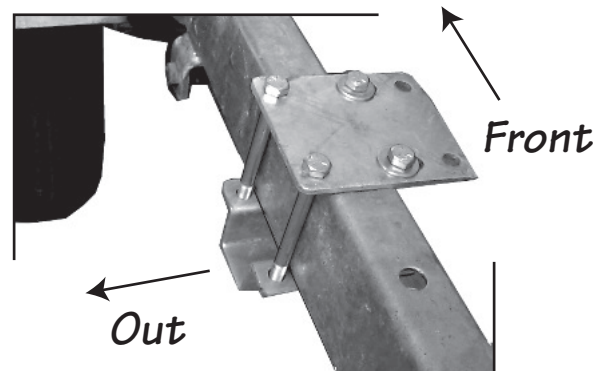

Figure 1
1. Before assembling the mounting hardware as shown in figure 1, decide where you will want the guides placed on your trailer.
2. Using 4 - 3/8"x 5" carriage bolts, 8 flat washers and 4 nyloc nuts, for each, attach the guide support mounts onto your trailer frame, as shown in figure 1. Use the holes that will keep the bolts closest to the frame tube. Finger tighten at this time. Repeat for other side.